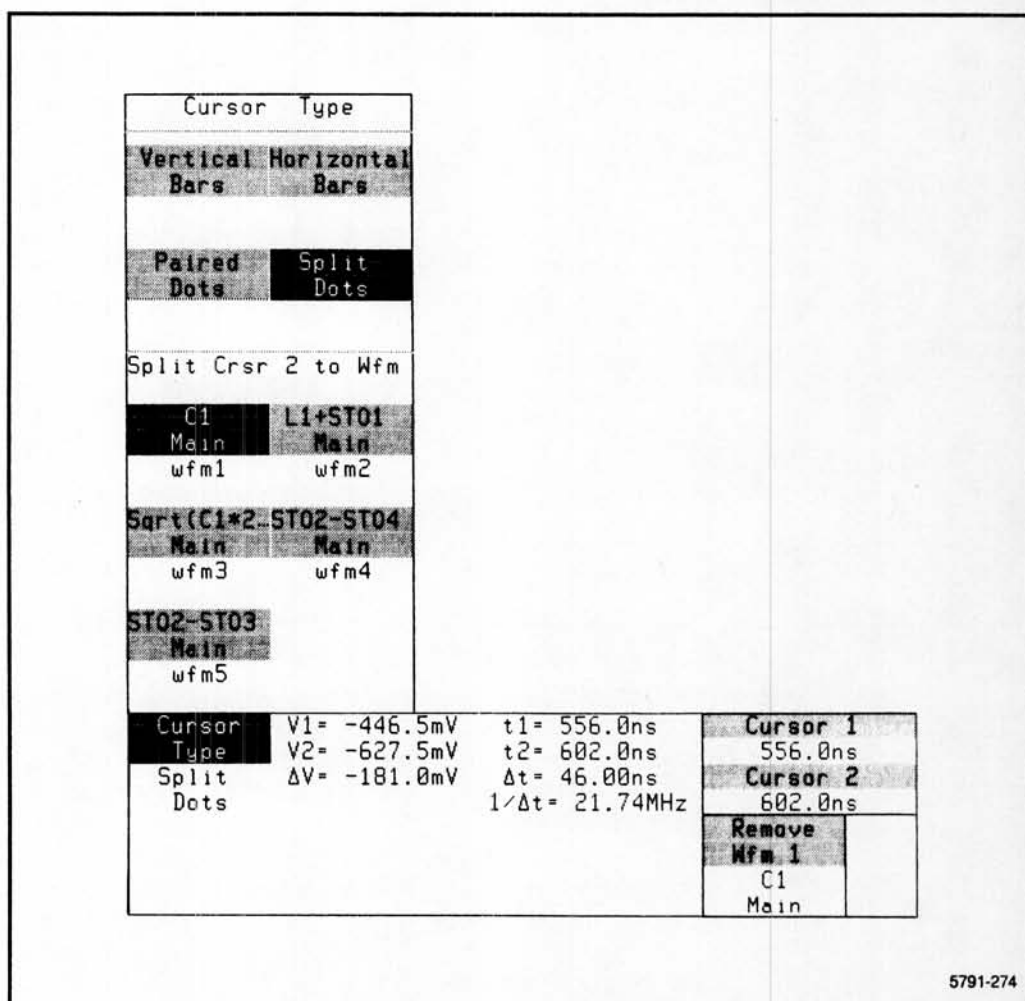

Figure 2-71. Cursor Type pop-up menu.
- **Cursor Type** label—Displays the **Cursor Type** pop-up menu (see Fig. 2-71) which allows selection of several types of cursors: